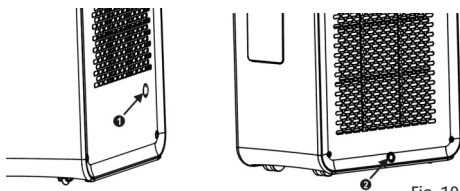

Fig. 10
1. When the unit is in cooling mode, it is not necessary to install the condensate drainage pipe since condensate evaporates automatically. Make sure that when the unit is operating, the rubber plug of the drainage hose is securely fixed (see Fig. 10).
2. In heating mode, remove the rubber plug (2) of the drainage hose (Fig. 10), install the respective drainage hose to improve heating efficiency.
3. In dehumidification mode, remove the rubber plug (2) of the drainage hose, install the respective drainage hose. Disconnect the air outlet hose, connect the drainage hose to the drainage hole and drain water from the unit to ensure maximum dehumidification efficiency.
When the condensate collection tank is filled up, water needs to be drained, otherwise the unit will not operate. Condensate should be drained by opening the lower plug at the device's base (Fig. 10 pos. 2).
- A hole designed for continuous condensate removal in the center of the device (Fig. 10 pos. 1) can be used for continuous condensate removal under conditions of increased humidity inside a room. To do so it is also necessary to perform the abovementioned procedure.